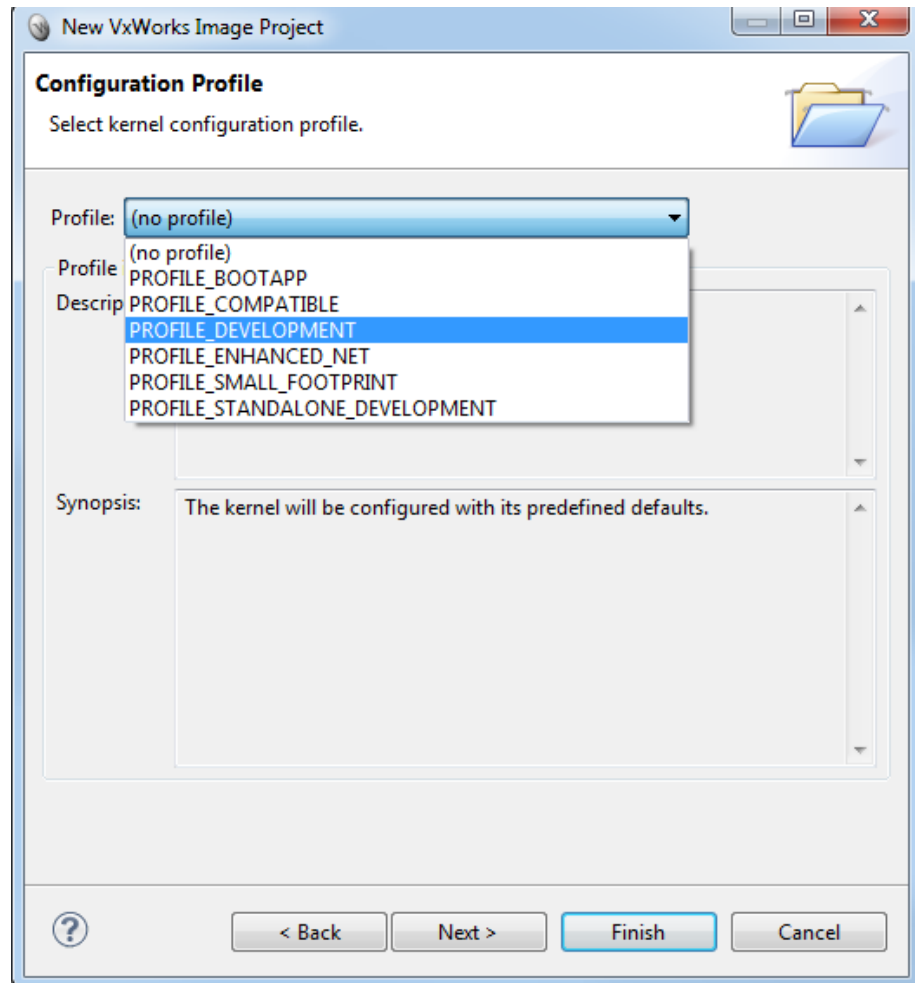

Figure 6: New VxWorks Image Project: PROFILE_DEVELOPMENT Option
- From the New VxWorks Image Project wizard, select **PROFILE_DEVELOPMENT** (Figure 6).